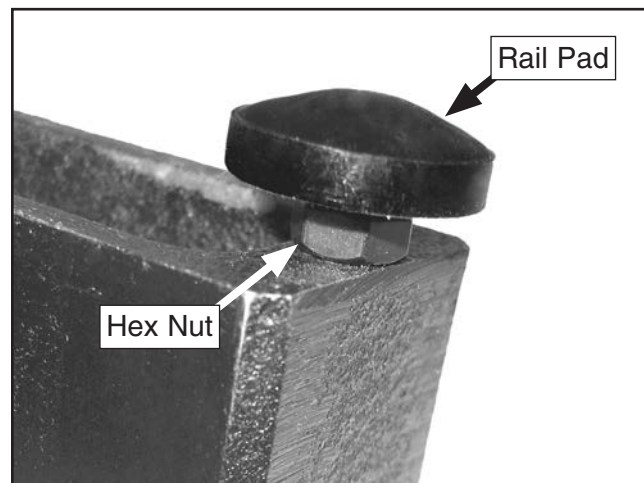

Figure 26. Installed rail pad.
4. Thread the M6-1 hex nut onto the rail pad, then thread the rail pad into the rear of the fence (see **Figure 26**).